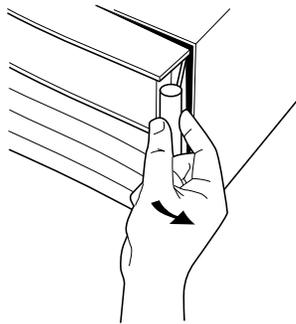

Figure 1. Opening the Router Door
2. Open the front door of the router by pulling its lock—the round post at the upper right—to the right. See figure 1.